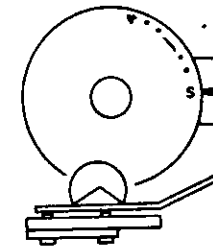

Fig. 41
- 3) Fix the starting position of the film counter gear as shown in Fig. 41.